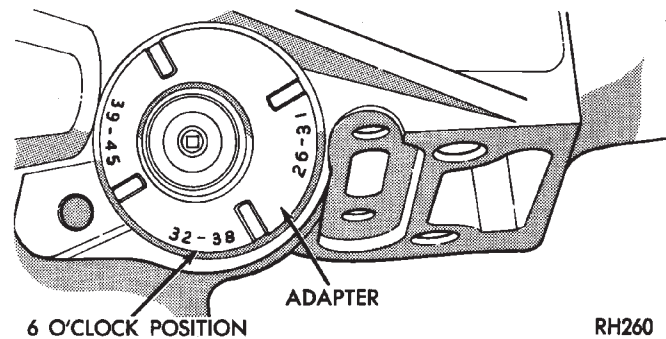

Fig. 11 Indexing Speedometer Adapter
(9) Thoroughly clean adapter flange and adapter mounting surface in the extension housing. These surfaces must be clean for proper adapter alignment and speedometer operation.
(10) Lubricate adapter oil seal and O-ring with transmission fluid.
(11) Count number of teeth on pinion gear before installing pinion in adapter.
(12) Note range index numbers on adapter face (Fig. 11). These numbers correspond to number of teeth on pinion.
(13) Install speedometer adapter in housing.
(14) Rotate adapter until required range numbers are at 6 o'clock position (Fig. 11). Be sure range numbers correspond to number of teeth on driven gear.
(15) Lightly push or tap adapter into housing until seated.
(16) Install adapter retainer. Tighten retainer bolt to 11 N•m (100 in. lbs.) torque.
(17) Install vehicle speed sensor. Tighten sensor coupling nut to 17 N•m (150 in. lbs.) torque and install sensor wires.
(18) Connect speedometer cable to speed sensor if equipped.
(19) Lower vehicle and top off transmission fluid level.